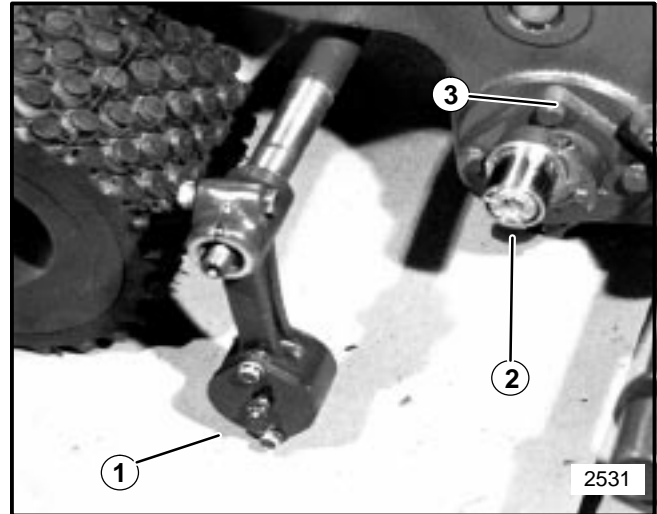

FIGURE 17
2. Loosen clamp screw on left pitman arm and remove from shaft. Refer to Figure 17.
3. Loosen clamp screw in eccentric assembly and remove. Refer to Figure 17.
4. Remove two (2) top screws securing the other side arm assembly. Side arm, shaft and pitman arm, are now removable by pulling side arm out.